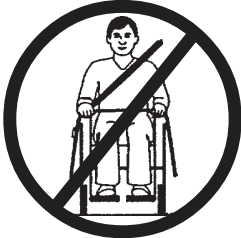

FIGURE 4 Positioning Belts
3. The belt(s) should not be held away from the body by wheelchair components or parts, including but not limited to wheelchair armrests or wheels. Refer to FIGURE 4 for proper and improper positioning of the belts.